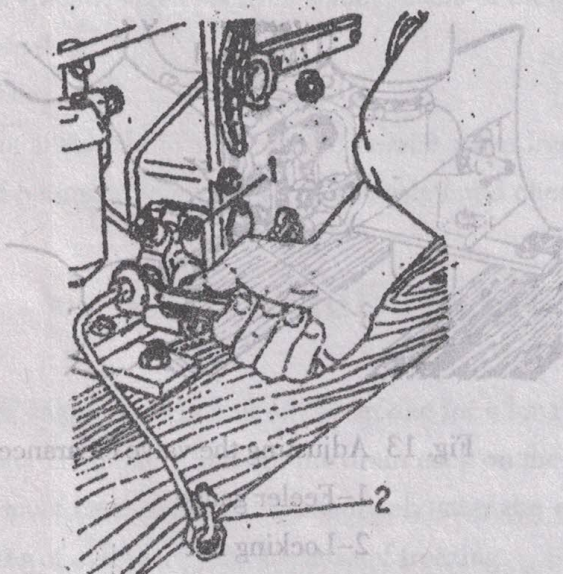

Fig. 14 Turning the high pressure fuel pipe with its open end upwards
2. Loosen the nut which connects the high pressure fuel pipe to the injection pump, turn the pipe around so that the open end of the pipe is upwards, and re-tighten the nut as shown on Fig. 14. Then fill up the high pressure fuel pipe with fuel by means of the fuel priming handle.